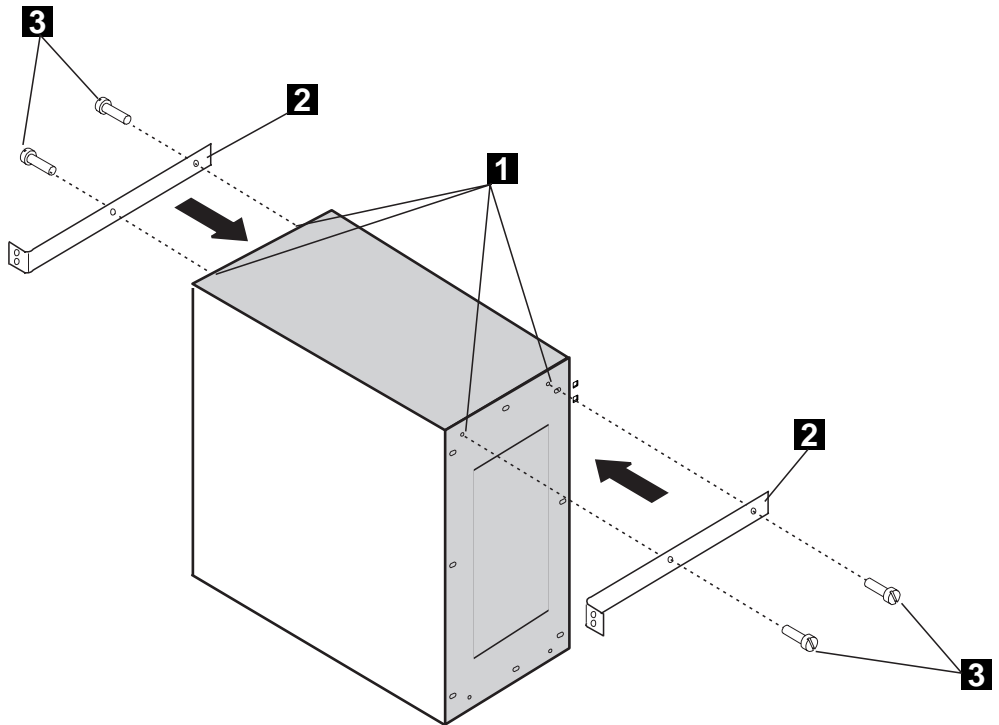

Figure 1-4. MAE Brackets Installation
- \_\_\_ 5. Refer to Figure 1-4, **remove** the four screws **1** installed on the MAE frame, then **install** on the left and right side of the MAE two brackets **2** (PN 0782961) using four screws **3** (PN 1621191).